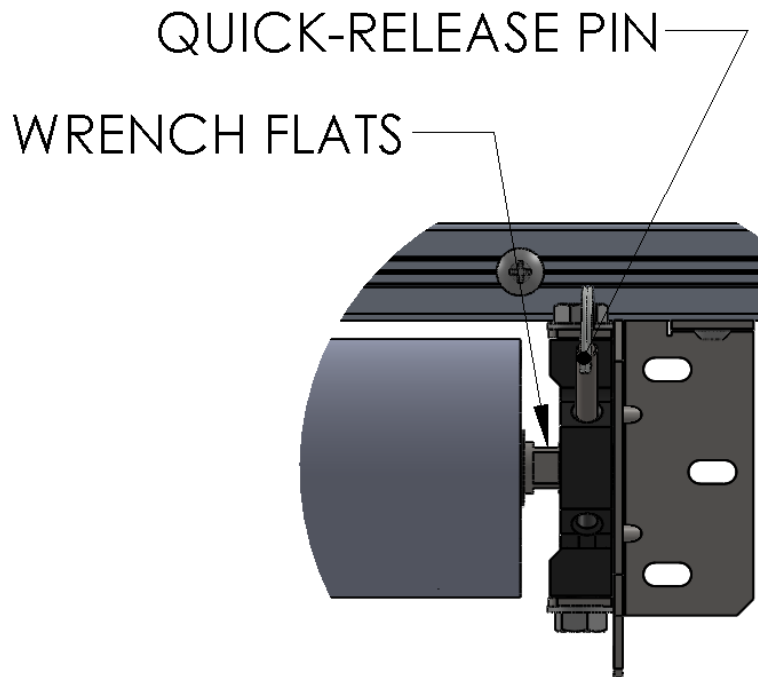

Figure 7 WRENCH FLATS/SPRING TENSIONING PIN
1. Spring tension is increased/decreased with a two-step process. To increase spring tension, insert the open-end wrench onto the wrench flats, then pull the Quick-Release pin. Pull the wrench down (CCW) until the pin can be replaced – about a quarter turn. Repeat this two-step process about 8 times equaling about 2 full turns on the spring. (Figure 7 WRENCH FLATS/SPRING TENSIONING PIN)